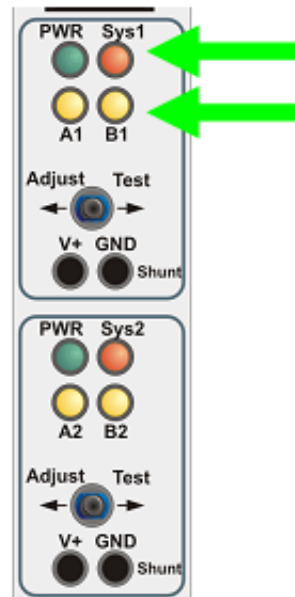

Figure 8 – IMC Board
3.4 Check the LED indications SYS1 and B1 are illuminated (Figure 8).